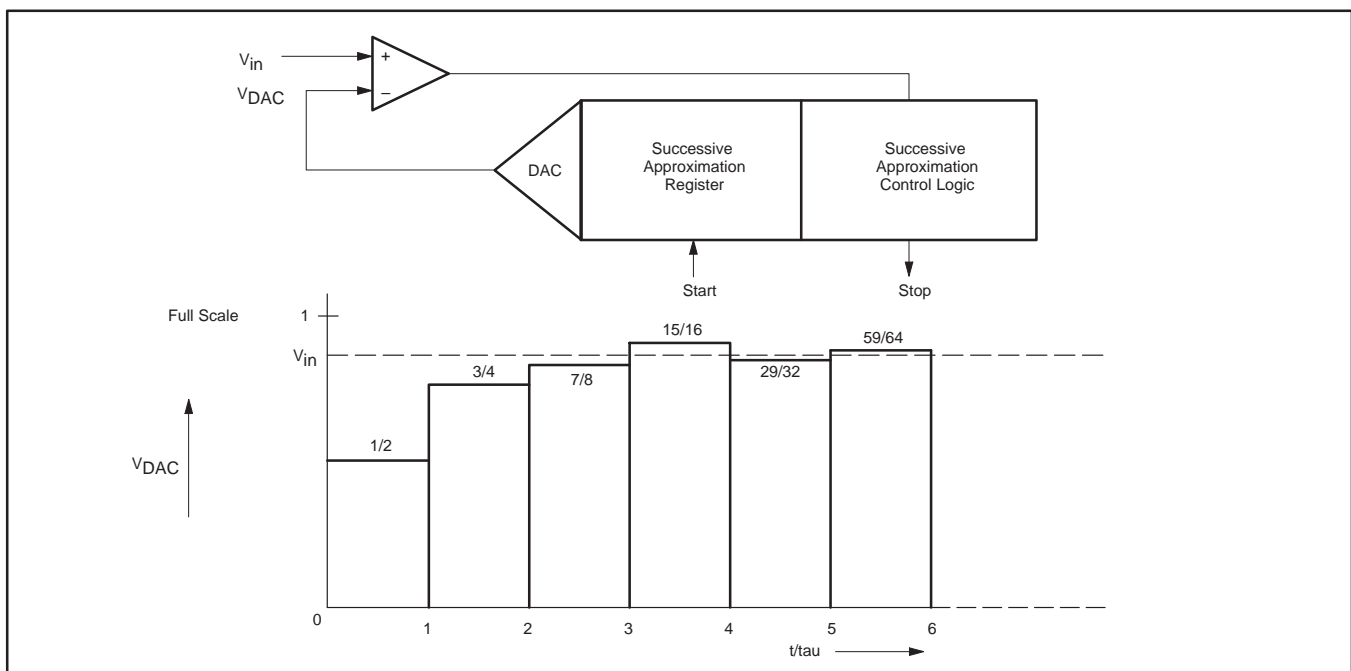

Figure 35. Successive Approximation ADC
**Analog-to-Digital Conversion:** Figure 35 shows the elements of a successive approximation (SA) ADC. The ADC contains a DAC which converts the contents of a successive approximation register to a voltage (VDAC) which is compared to the analog input voltage (Vin). The output of the comparator is fed to the successive approximation control logic which controls the successive approximation register. A conversion is initiated by setting ADCS in the ADCON register. ADCS can be set by software only or by either hardware or software.